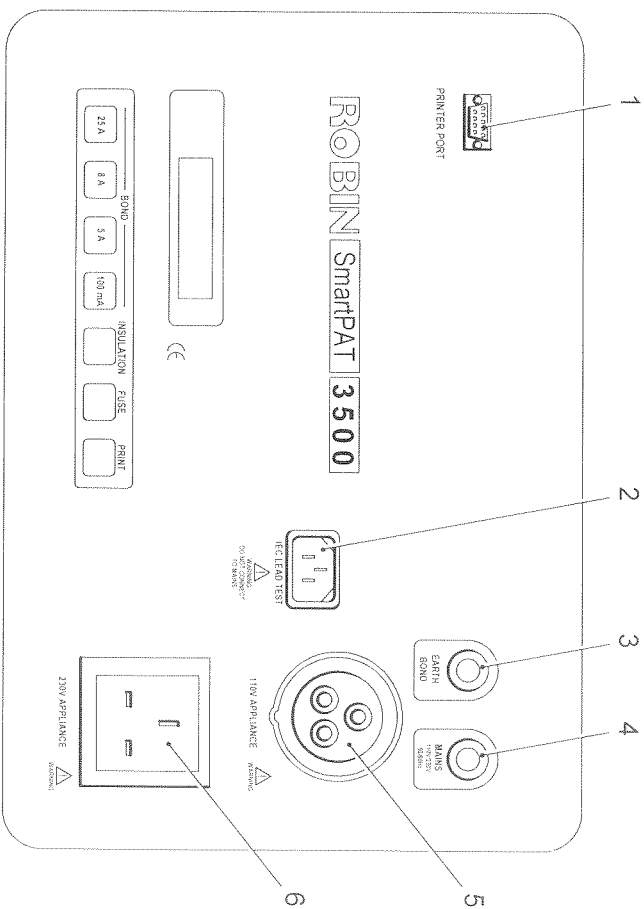

Figure 2 Controls and Accessories
The cables, connectors, controls and indicators of the SmartPAT 3500 are shown in Figure 2 and listed below, together with a brief functional description:
- Mains Captive mains cable to connect to the mains supply with either a 13A, 230V or a 16A, 110V plug (via adaptor). (See Figure 2 (4)).
- Earth Bond Captive cable fitted with heavy duty crocodile clip, to connect to appliance under test. (See Figure 2 (3)).
- 110V Appliance Provides a socket to connect a 110 V appliance to the test set for testing. (See Figure 2 (5)).
- 230V Appliance Provides a socket to connect a 230 V appliance to the test set for testing. (See Figure 2 (6)).
- IEC Lead Test Enables IEC leads to be tested, used in conjunction with the 230 V Appliance Input socket. (See Figure 2 (2)).
- Printer Port Allows an external printer to be connected to the Portable Appliance Tester. (See Figure 2 (1)).